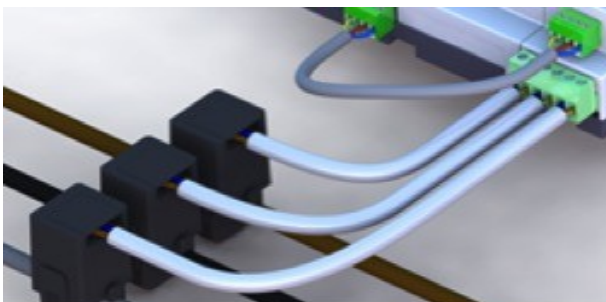

Figure 2: Installing current transformers
- ▶ Clamp the CT onto the conductor for L1 (phase 1). (Fig. 2). Note the polarity of the CT, the arrow on the CT should point towards the load.